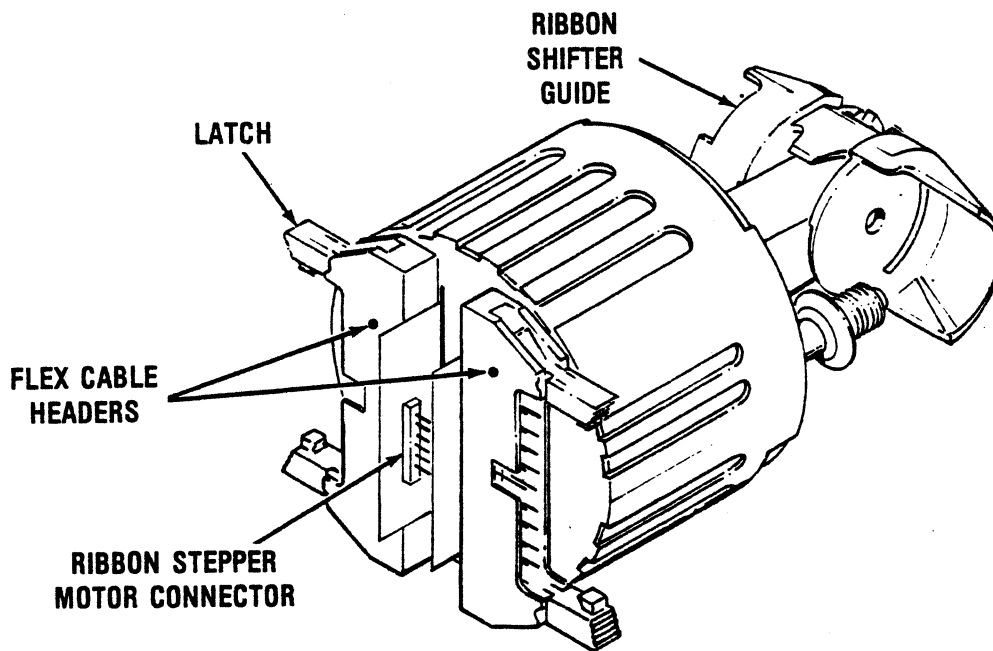

Figure 6-3 Print Head Assembly
7. Disconnect the ribbon stepper motor connector (see Figure 6-3).
8. Disengage latches at the top and bottom of the head flex cable headers (Figure 6-3).